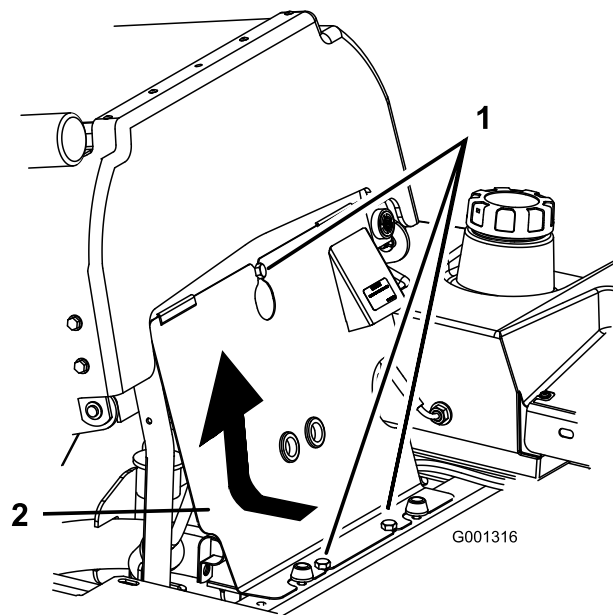

Figure 35
1. Tilt the seat forward, loosen the bolts and remove the front engine panel (Figure 35).